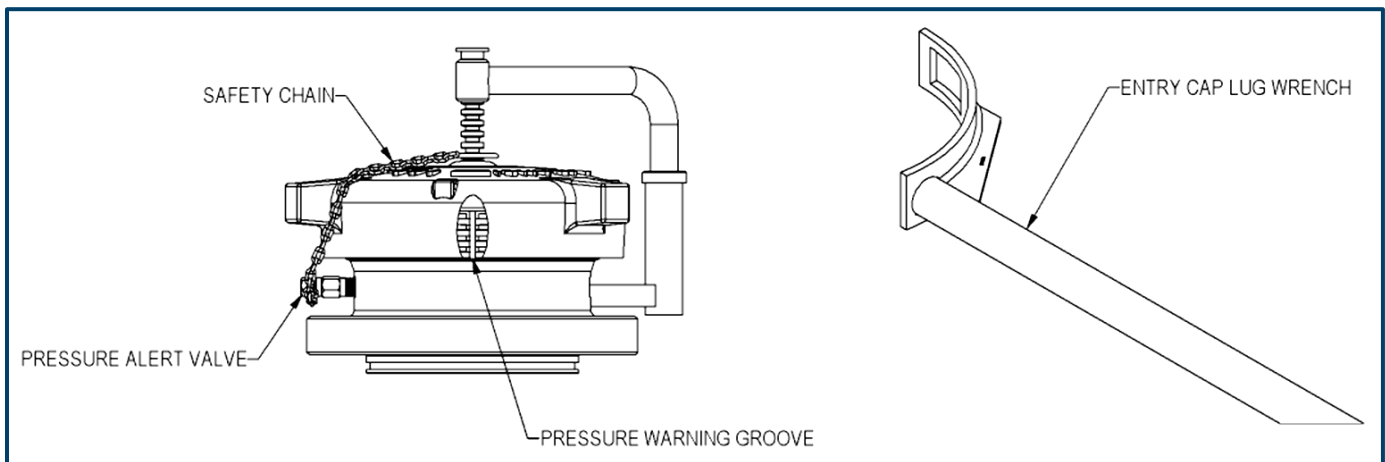

Figure 4: Model D Entry Cap & Lug Wrench
7. Slowly loosen the entry cap by rotating counterclockwise using the supplied entry cap lug wrench (see Figure 4). Observe the pressure warning groove area at the bottom of the threads on entry cap (see Figure 4). If there is any media flowing from this area when the entry cap is loosened, immediately re-tighten entry cap. Slowly open the vent valve to vent remaining pressure and slowly open the drain valve to drain fluid from the Pig Valve main body cavity. If unable to vent all pressure from body cavity refer to Section 10.0 'Troubleshooting' in this manual.
7. Slowly loosen entry cap by rotating counterclockwise using the supplied entry cap lug wrench (see Figure 4). Observe the Pressure Warning Groove area at the bottom of the threads on entry cap (see Figure 4 **Error! Reference source not found.**). If there is any media flowing from this area when the entry cap is loosened, immediately re-tighten entry cap. Slowly open the vent valve and drain valve to vent remaining pressure and drain fluid from Pig Valve main body cavity. If unable to vent all pressure from body cavity refer to Section 10.0 'Troubleshooting' in this manual.